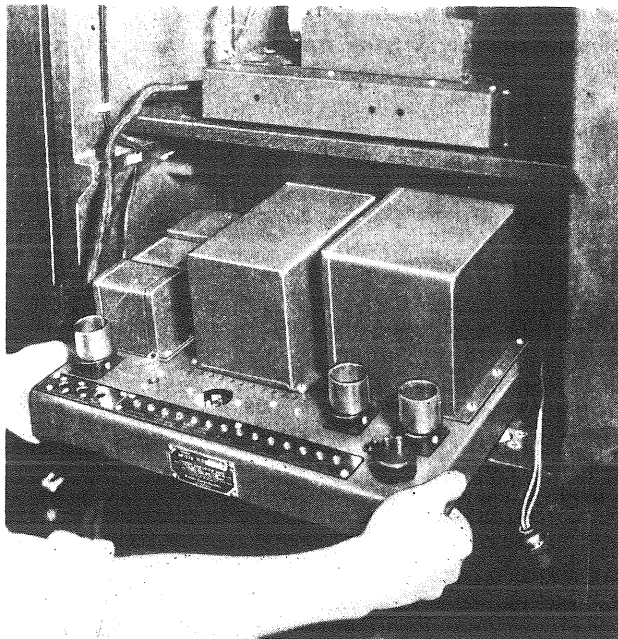

Figure 32—Removing socket power unit from cabinet
- (c) The S.P.U. may now be lifted clear of the cabinet (See Figure 32), and placed in a position convenient for work.